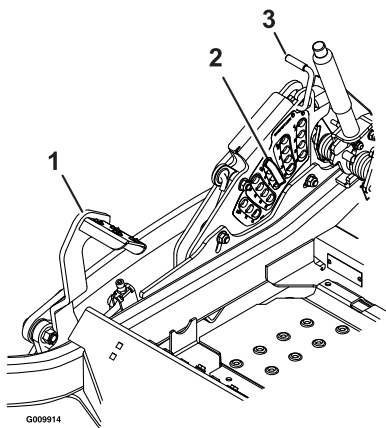

Figure 27
5. Push the foot pedal all the way forward and the deck will latch at the 5 1/2 inch (14 cm) transport position (Figure 27).